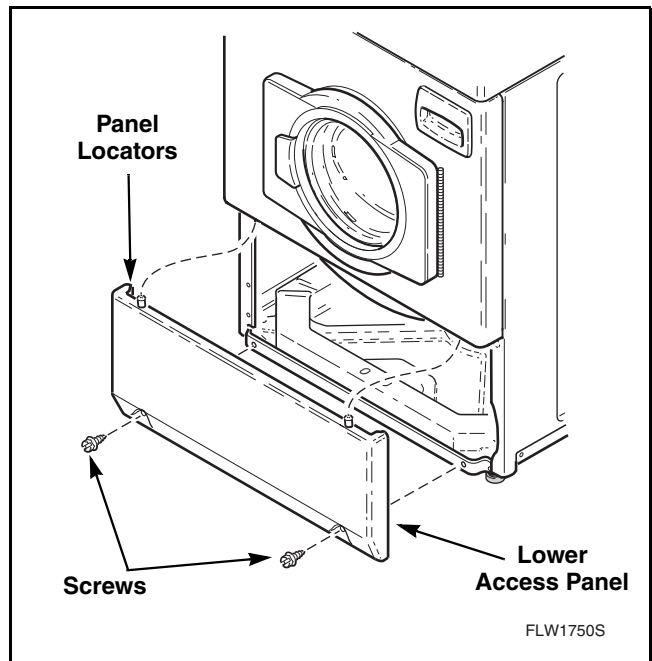

Figure 8
- a. While supporting the lower access panel, remove two screws from bottom edge of lower access panel. Refer to *Figure 8*.
- While supporting the lower access panel, remove two screws from bottom edge of panel and remove panel. Refer to *Figure 8*.